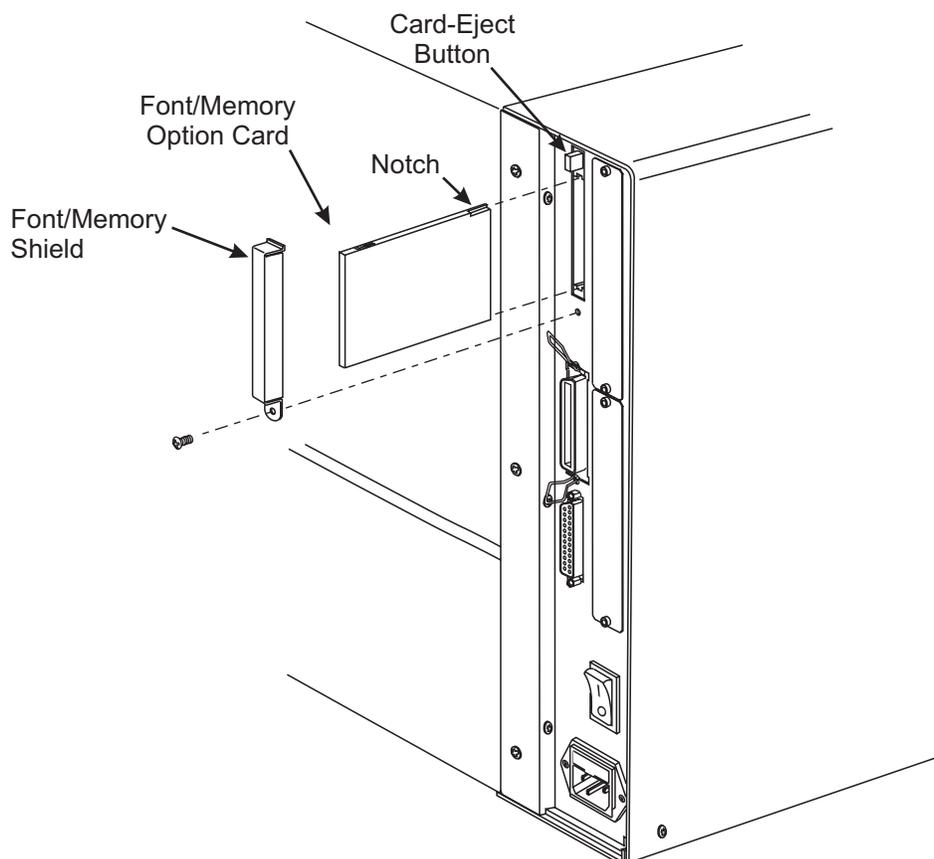

Figure 6-1. Memory and Font Card Installation
7. Refer to Figure. 6-1. Reinstall the font/memory card with the notch **UP**. Insert it enough to cause the card-eject button to pop out.
11. Print a configuration label by pressing and holding the **FEED** key while turning the AC power switch On (I).
1. Refer to RRP No. 1 on page 4-13. Turn the printer Off (O) and remove the AC power cord. Remove any communication cables.
3. Refer to Figure 6-1. Remove the font card or memory card from the card slot located at the rear of the printer by removing the option card shield and pressing the card-release button.
14. Refer to Figure. 6-1. Reinstall any optional memory/font boards and the option card shield.